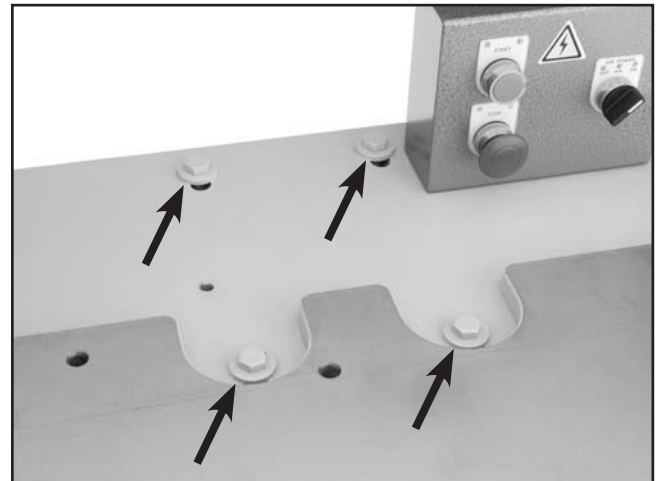

Figure 51. Motor mount bolts.
3. Loosen the motor mount bolts shown in **Figure 51**.